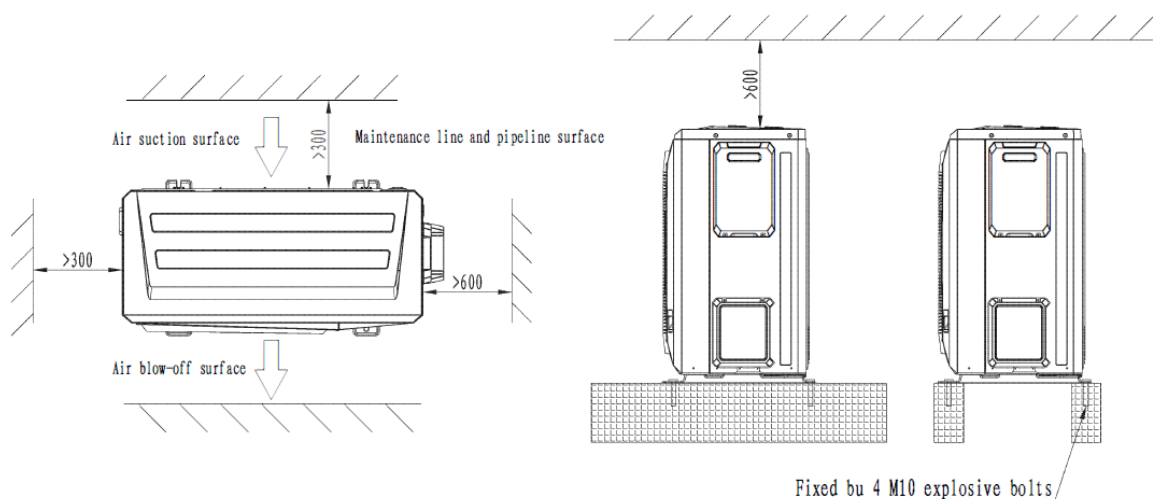

Fig 8-2 Space schematic diagram I for installation and maintenance of outdoor unit
2) Fig. 8-2 is applicable for models of ICHE636K2A-GMG105